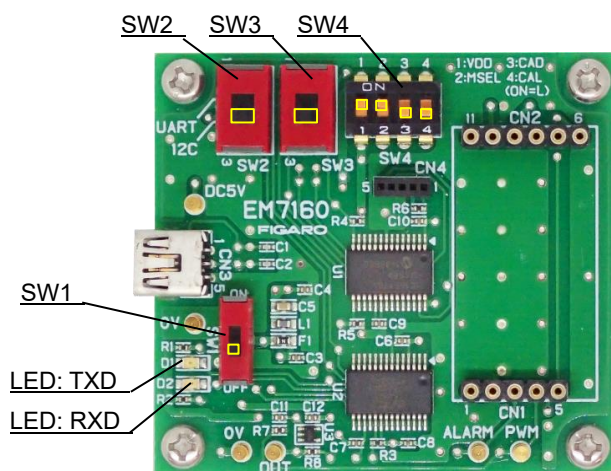

Figure 2 - I2C Communication Setting
**Caution!! Before changing the serial communication setting, be sure to turn off the power switch (SW1) by setting it to the lower position as shown in Fig. 2.**
- SW2, SW3: Set to I2C position (**lower position** as seen in Figure 2).
- SW4-1, SW4-2: Set to ON position (**upper position** as seen in Figure 2).
- SW4-3, SW4-4: Set to OFF position (**lower position** as seen in Figure 2).